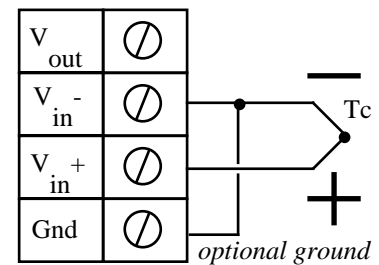

Fig 3.15 - Temperature Measurement (Thermocouple)
4. Wire your voltage source per figure 3.15, and refer to the steps at the beginning of this chapter for more information on how to set up your sensor.^{5,10} If your thermocouple leads are backwards, then the measured temperature will be shown as varying in the opposite direction from ambient (e.g. if the instruNet terminals are at 25°C, the thermocouple is at 35°C, and the leads are backwards, then instruNet will report 15°C.).